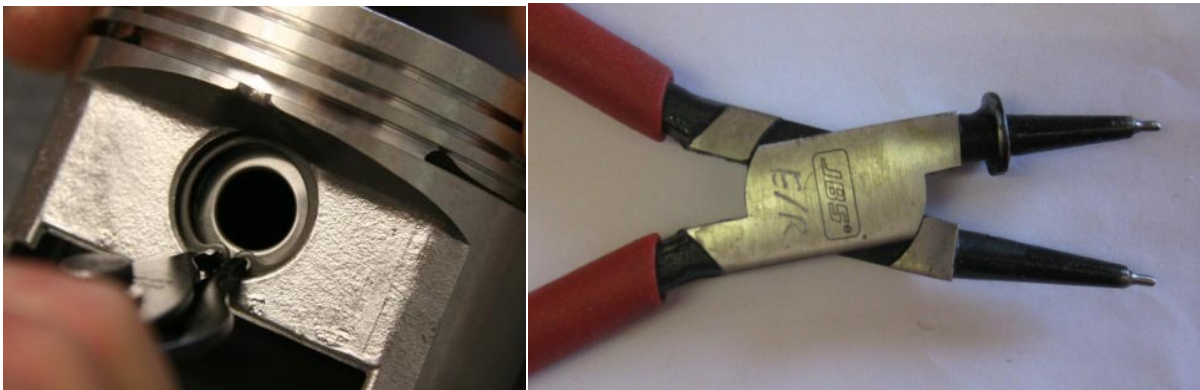

Figure 21 – Standard Circlip Pliers
- Standard (internal) circlip pliers are required. Such pliers may be modified by brazing a washer to one leg as shown in Figure 21 (right). The washer is filed down so that it allows the pliers to close only just far enough to allow the clip to be fitted or removed. This prevents inadvertent over-stressing of the clips.